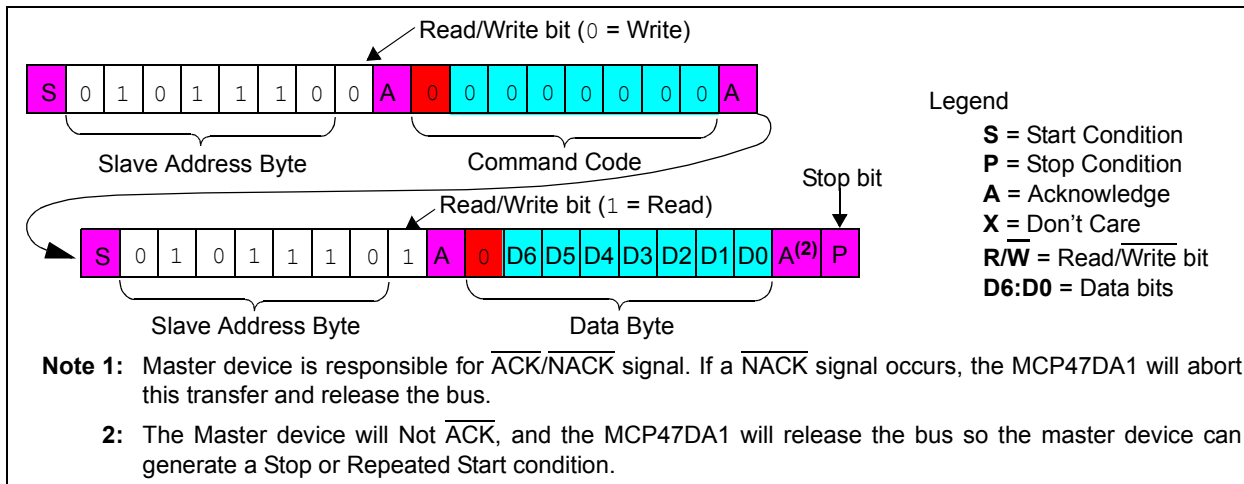

FIGURE 5-14: I²C Read Command Format.
The command is terminated once a Stop (P) or Restart (S) condition occurs. Refer to Figure 5-14 for the read command sequence. For a single read, the master sends a Stop or Restart condition after the first data byte (and \overline{A} bit) is sent from the slave.